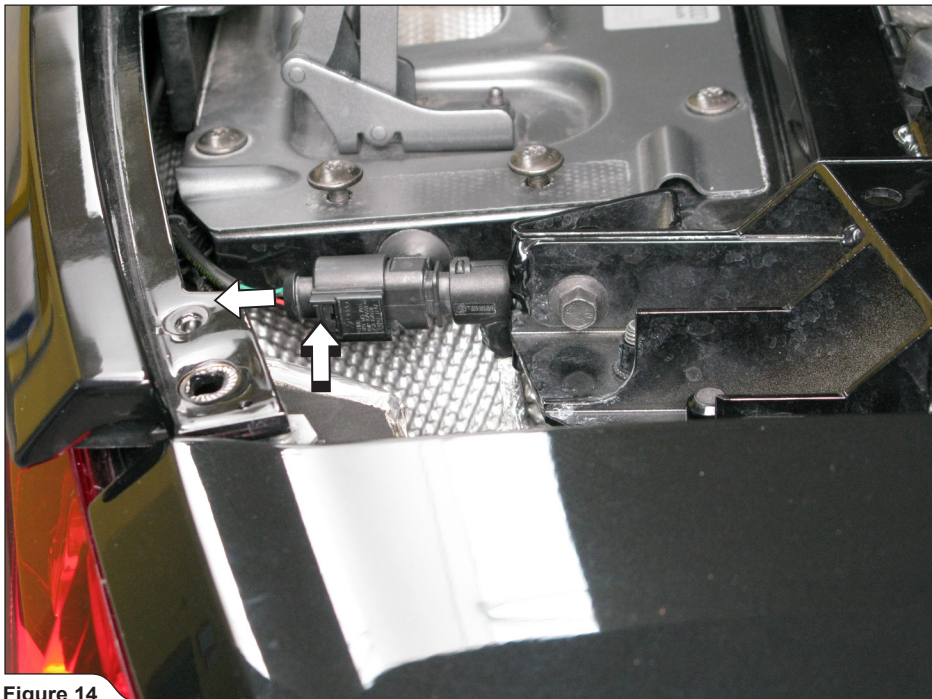

Figure 14
11. Disconnect the marked electrical connector on the right side of the vehicle (**Figure 14**).